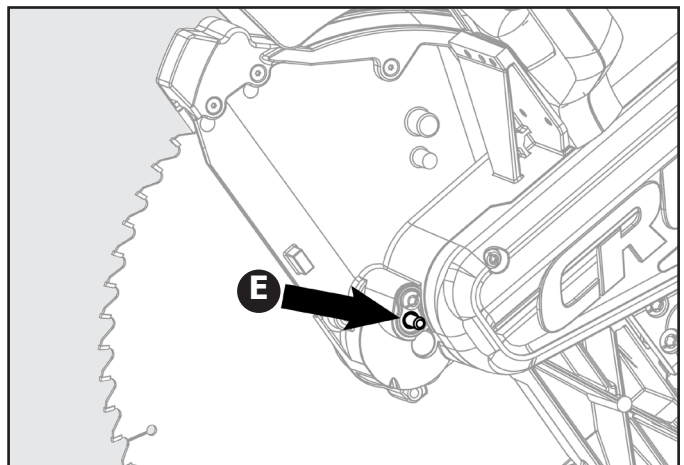

Figure 12
5. Using the supplied blade wrench, remove the blade bolt (D) by turning it clockwise.
6. Remove only the outer blade washer (F) and the blade (G), leaving the inner blade washer on the spindle.
7. Press the spindle lock button (E). See figure 12.
9. Align the double "D" flats on the blade washer (F) with the flats on the spindle and fit the washer onto the spindle.
10. Lock the spindle by depressing the spindle lock button. Screw on the blade bolt (D), remembering to thread it counter clockwise. Tighten blade bolt securely using the provided blade wrench.